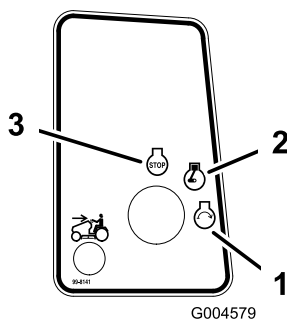

Figure 14
- Turn the ignition key clockwise and hold it in the Start position (Figure 14). When the engine starts, release the key.
- Turn the ignition key to Off (Figure 14).